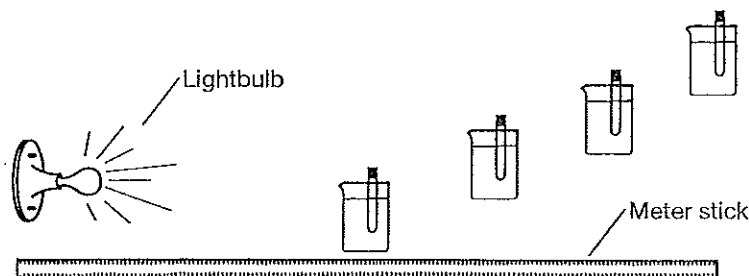

Figure 4.
12. The reduction in the amount of natural light that occurs due to depth in a body of water will be simulated by placing the samples at specific distances from the light source (see Figure 4).